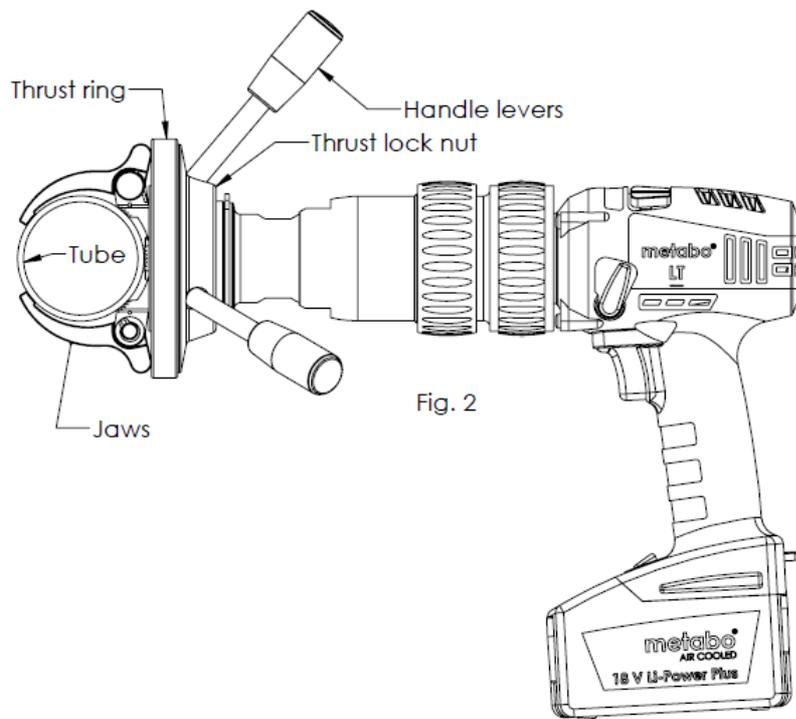

Fig. 2
- Referring to fig. 2, fasten the snap drill to the tube by tightening the jaws against the tube by rotating the thrust lock nut clockwise against the thrust ring by the help of the handle levers.